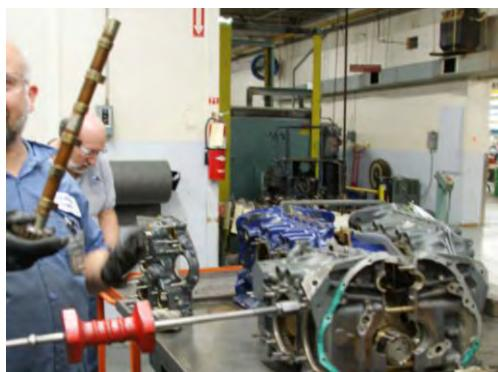

Figure 6
- G. Remove the camshaft when the crankcase halves are separated enough to allow for removal (Figure 6).